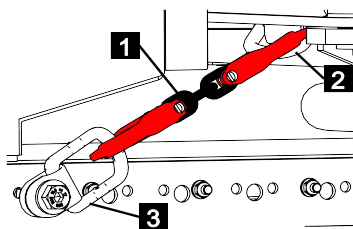

Fig. 65
2. Hook lashing chains (Fig.65/1) to the attachment points of the working platform (Fig.65/2) and the auxiliary frame (Fig.65/3) at all four attachment points.